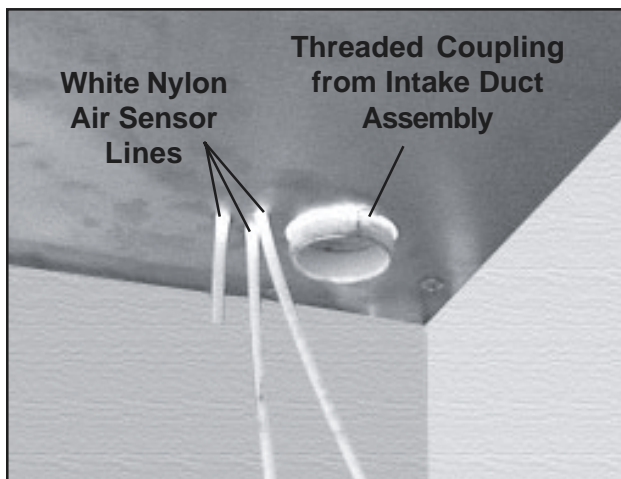

Figure 84. Air Sensor Lines & Coupling Passing Through Right Ceiling Panel
5. Push the three white nylon air sensor lines up through the right ceiling panel (Figure 84).